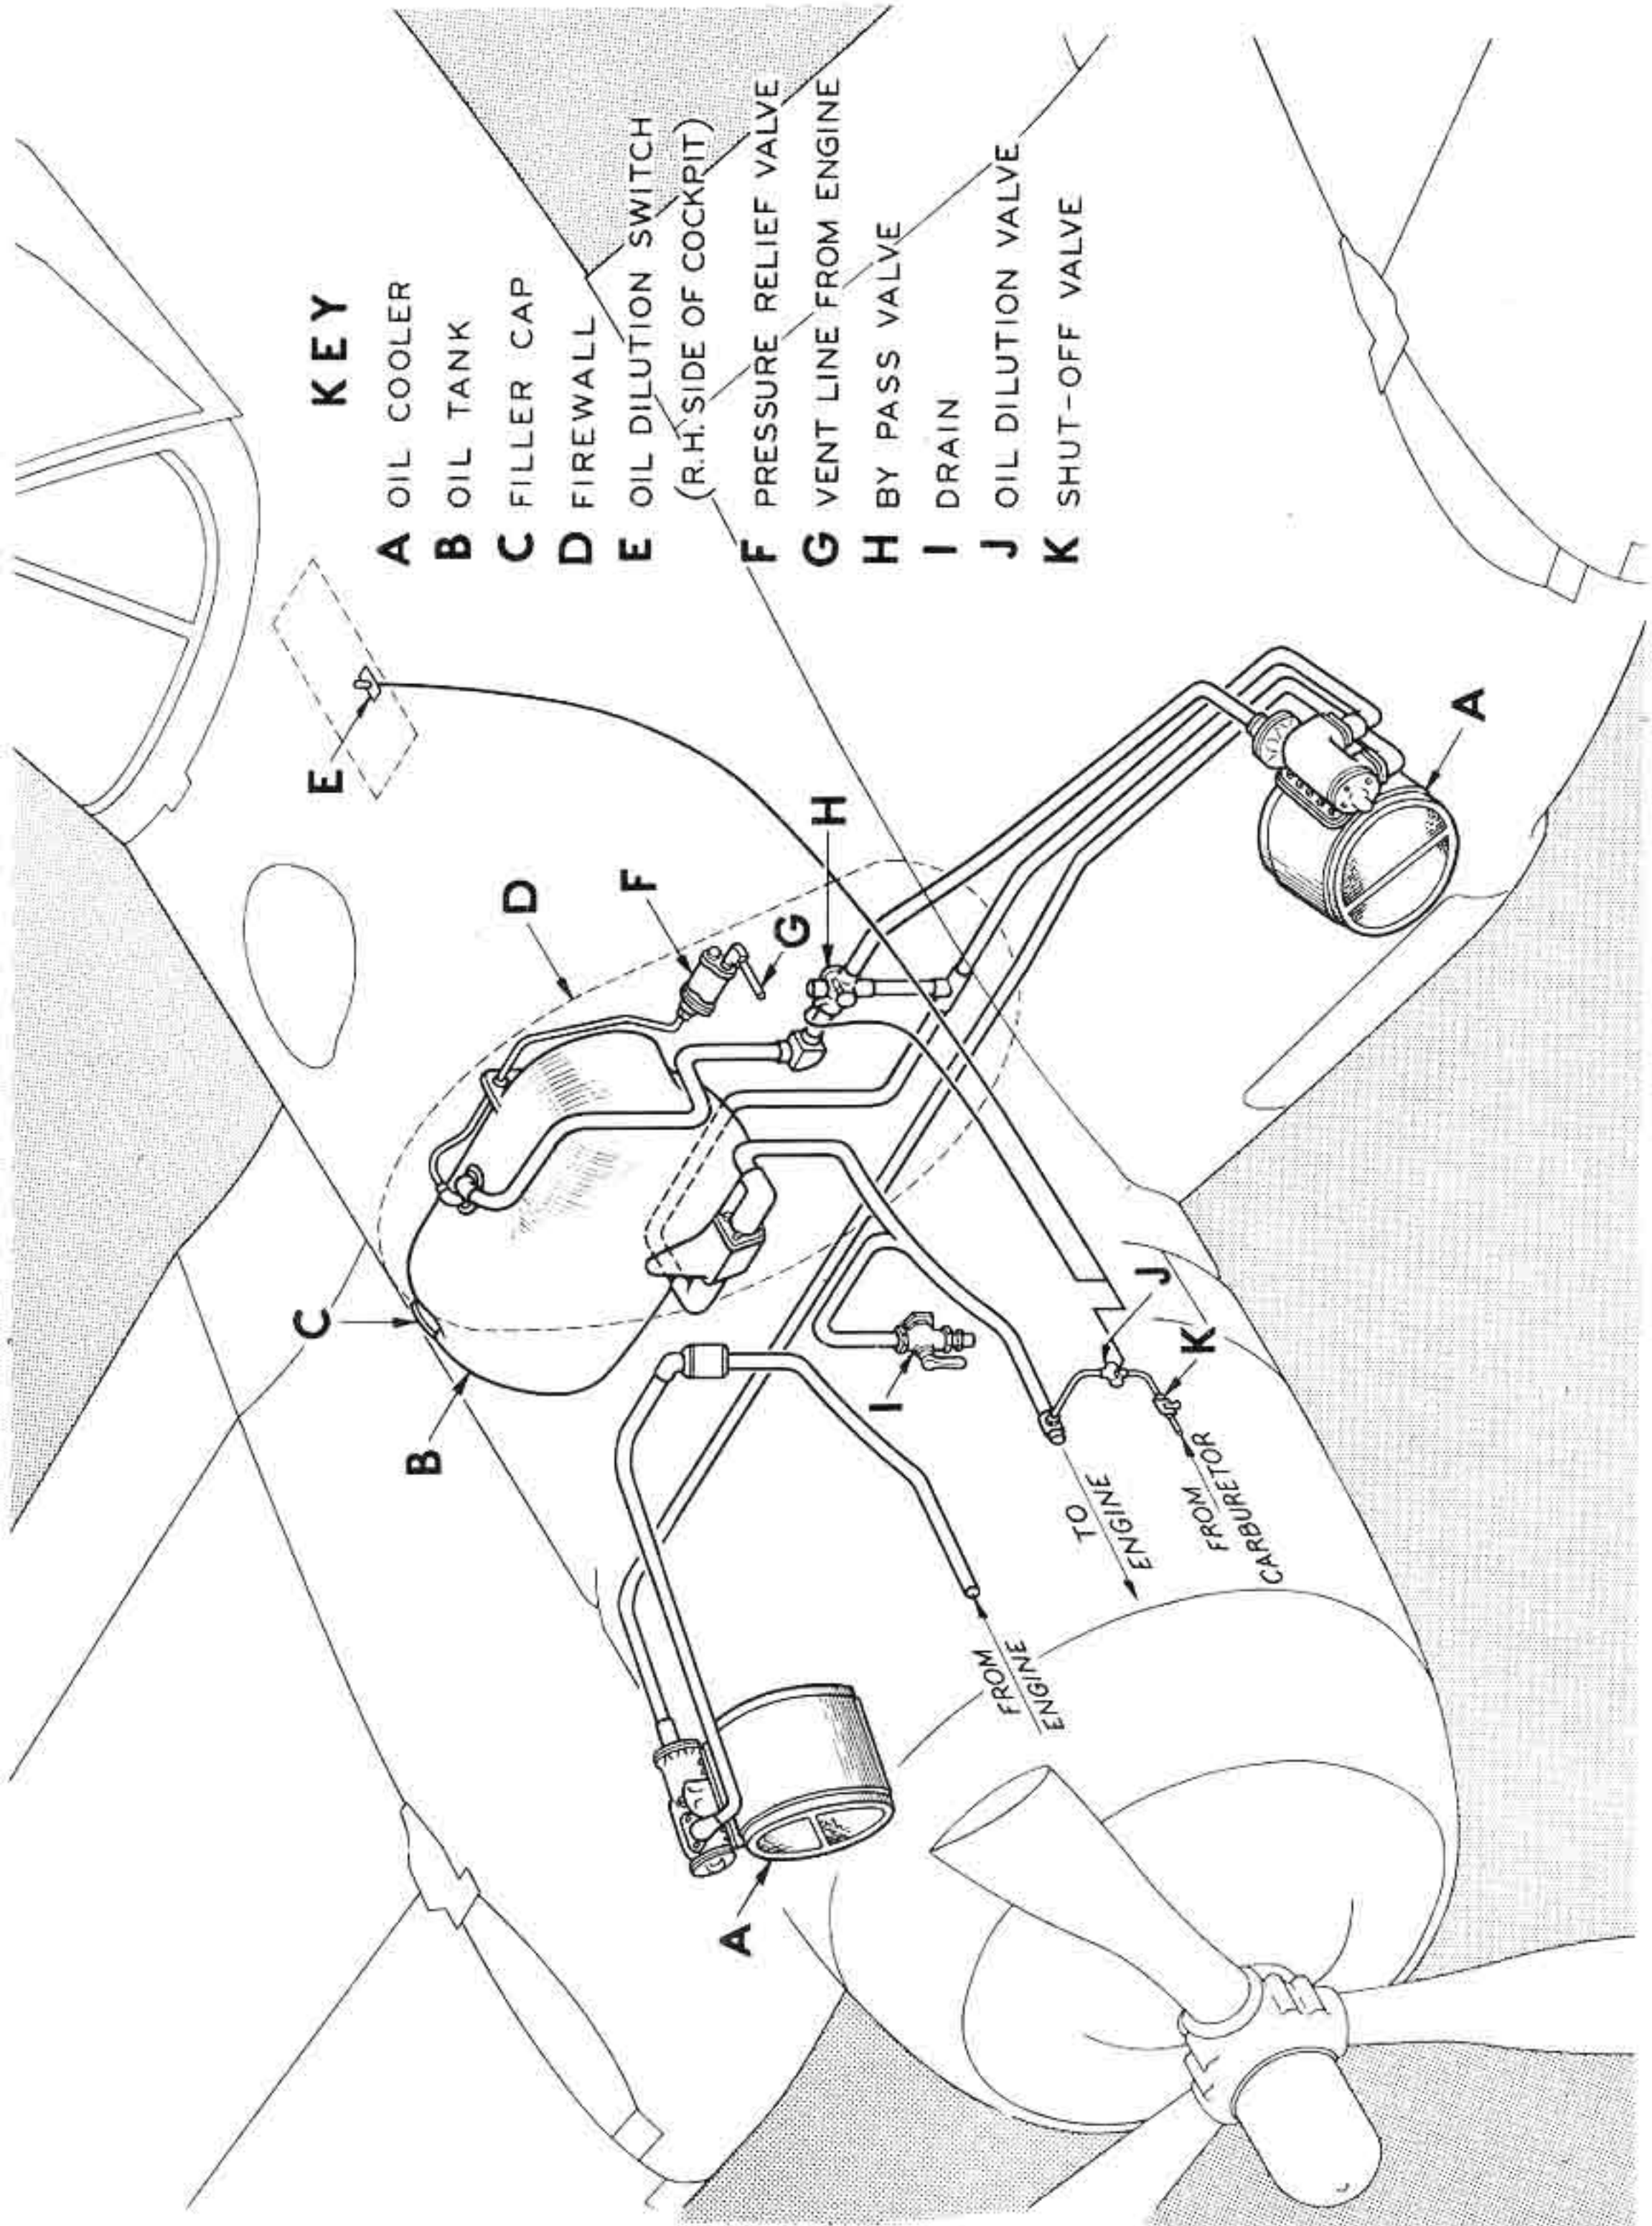

Figure 10—Oil System Control Diagram
(1) GENERAL.—The oil system is shown on figure 10.